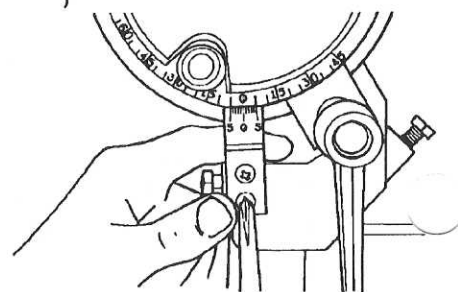

Fig. B-67
31. To adjust the scale, use a medium Phillips screwdriver to loosen the two screws which hold the indicator to the tie bar. See Fig. B-67. Then while holding the indicator in position so the "0"s are aligned, re-tighten the screws.